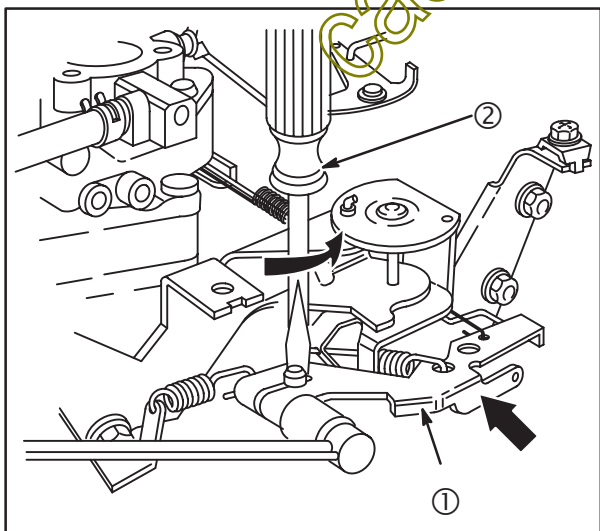

Fig. 30
1. Loosen governor lever nut. Push on governor lever (1) until throttle is wide open. **Fig. 30.**